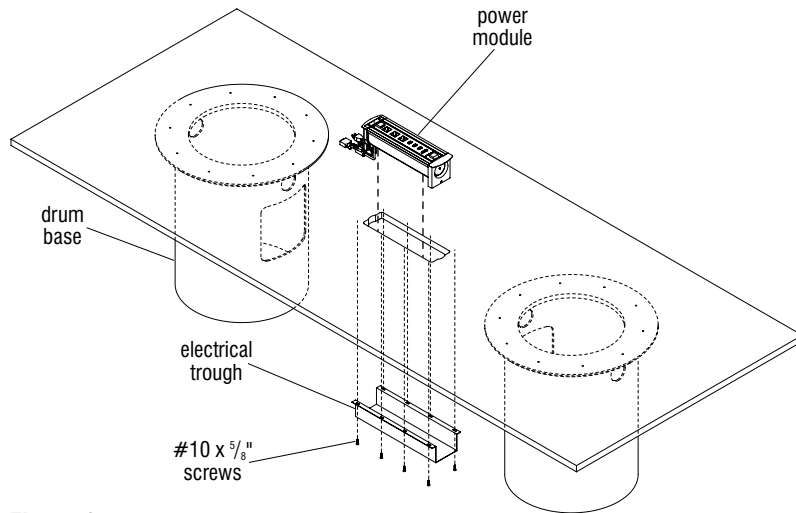

Figure 1
1. From underneath the table top, position the electrical trough over the cutout of the table top and secure using eight #10 x  $\frac{5}{8}$ " screws per electrical trough (Figure 1).
2. Route cables from the power and data module through the cutout of table top and carefully position the module into the cutout (Figure 1).